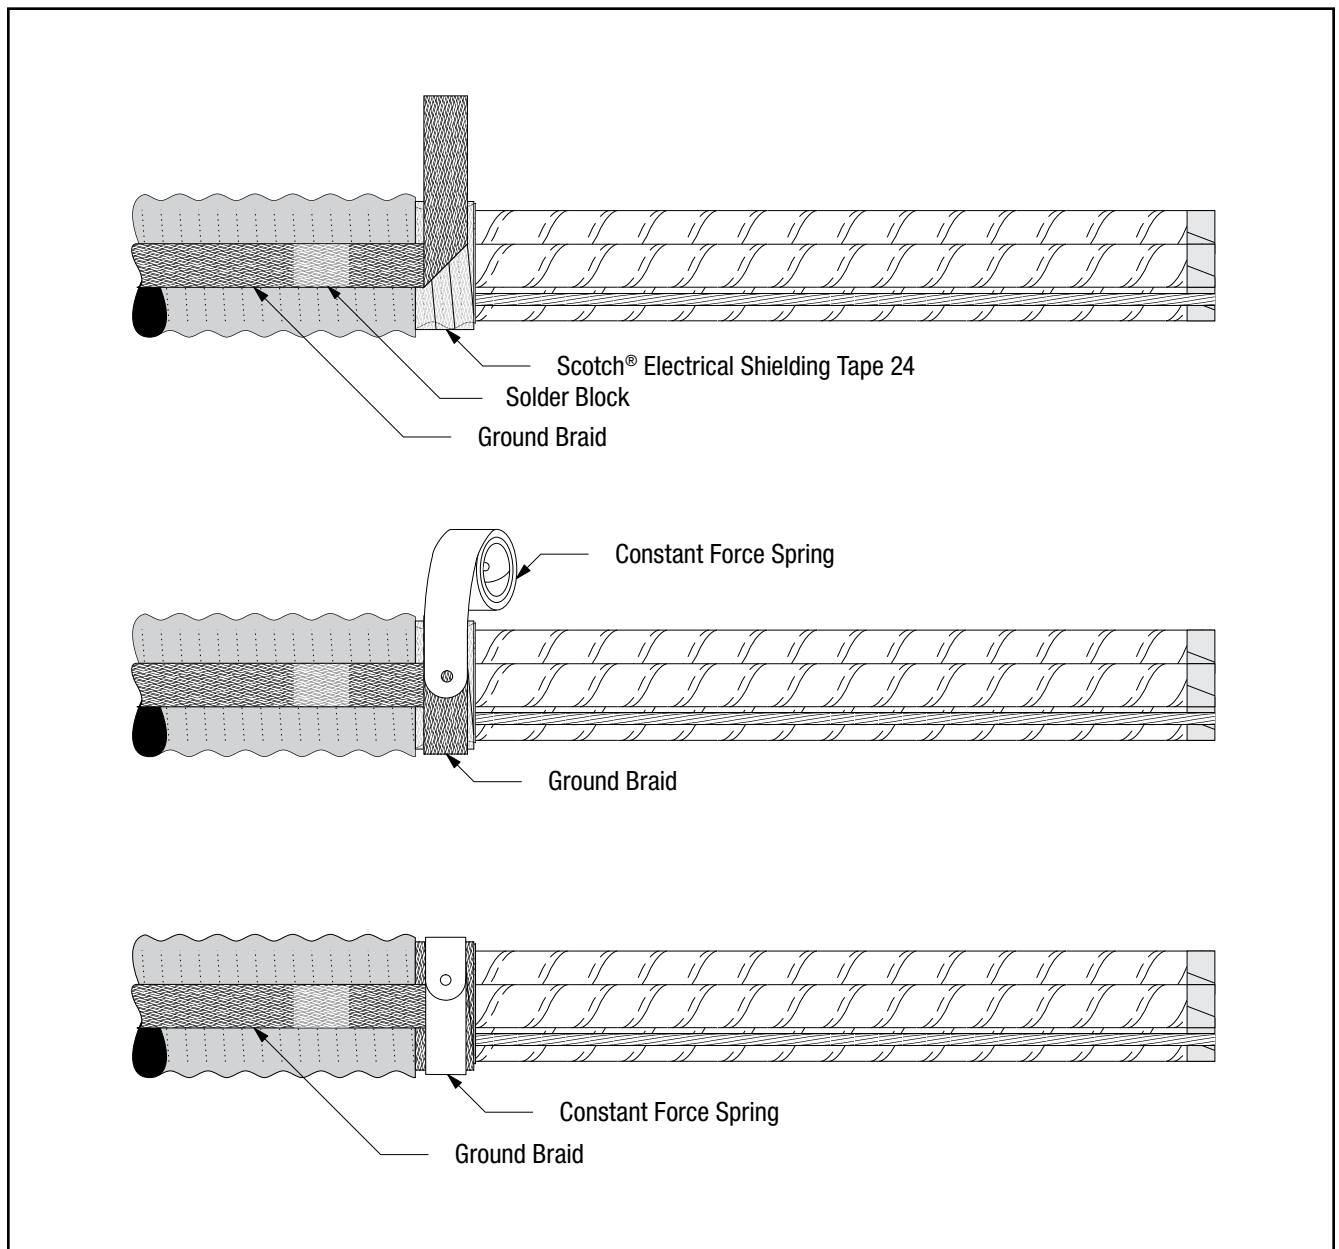

Figure 3
- 3.2 Wrap ground braid around cable armor and secure using large constant-force spring (*Figure 3*). Once spring has been applied, cinch (twist with hand) to tighten.